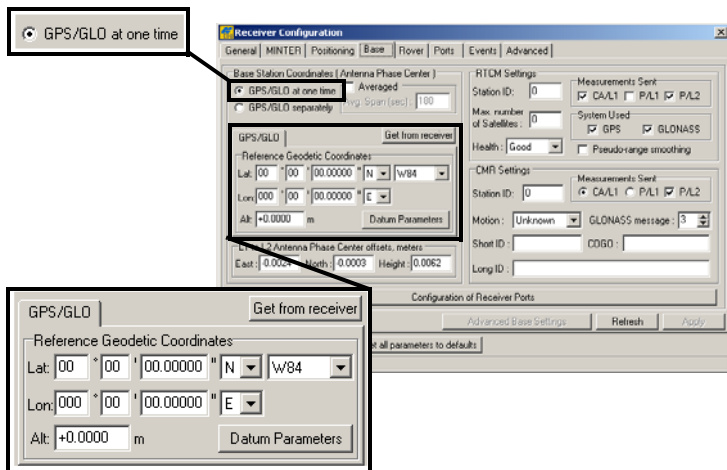

Figure 3-10. Base Configuration
- For the Base receiver, click the *Base* tab and set the following parameters (Figure 3-10 on page 3-13), then click **Apply**.